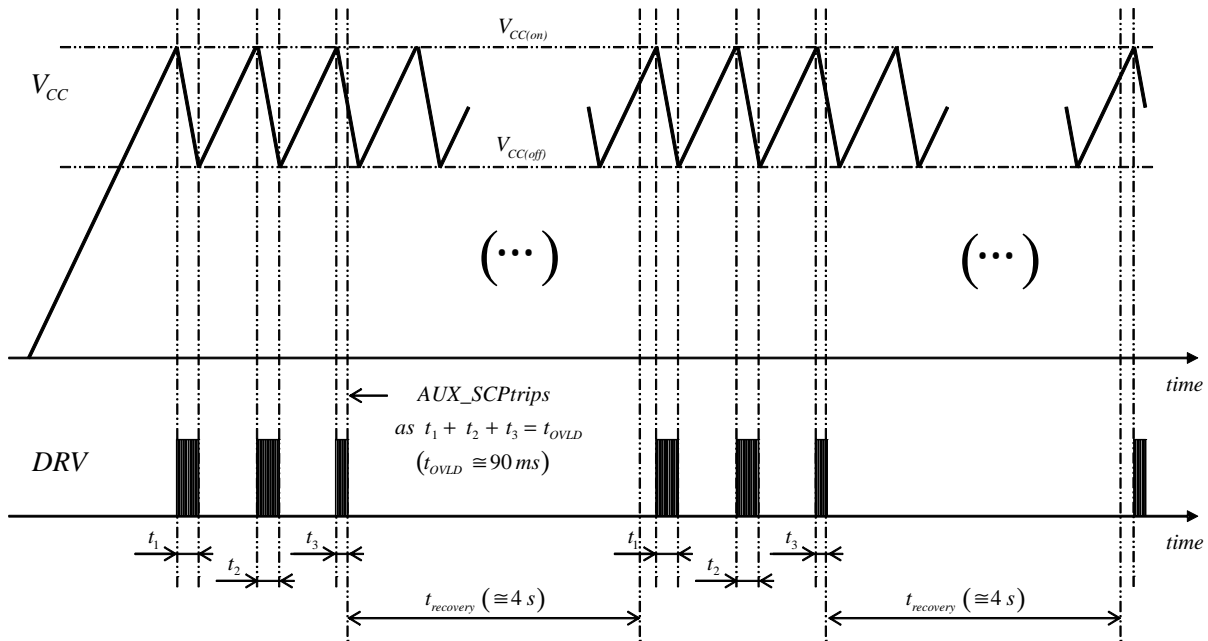

Figure 59. Start-up Sequence in a Load Short-circuit Situation (auto-recovery version)
- If the load is shorted, the circuit will operate in hiccup mode with V_{CC} oscillating between $V_{\text{CC}(\text{off})}$ and $V_{\text{CC}(\text{on})}$ until the AUX_SCP protection trips (AUX_SCP is triggered if the ZCD pin voltage does not exceed 1 V within a 90-ms operation period of time thus indicating a short to ground of the ZCD pin or an excessive load preventing the output voltage from rising). The NCL30085A latches off in this case. With the B version, the AUX_SCP protection forces the 4-s auto-recovery delay to reduce the operation duty-ratio. Figure 59 illustrates a start-up sequence with the output shorted to ground, in this second case.